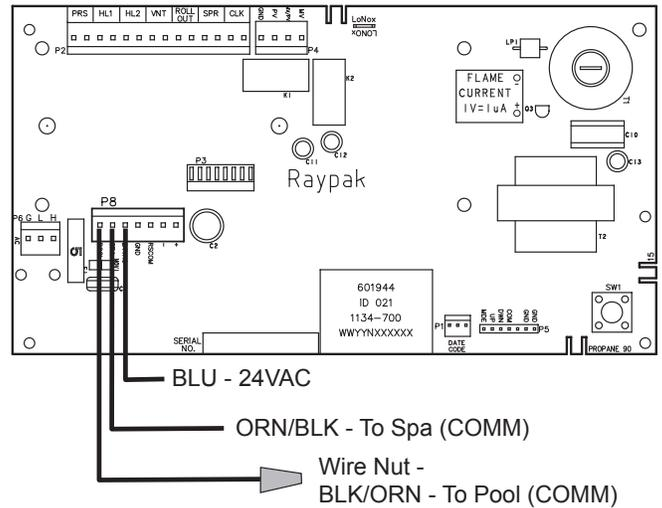

Figure 32. 2-Wire Remote Harness Installation on the P8 Connector, P-156 Only
7. Install the "7-Pin Remote Interface Harness" to the P8 connector and turn power "On" to the heater. See **Figure 32**.